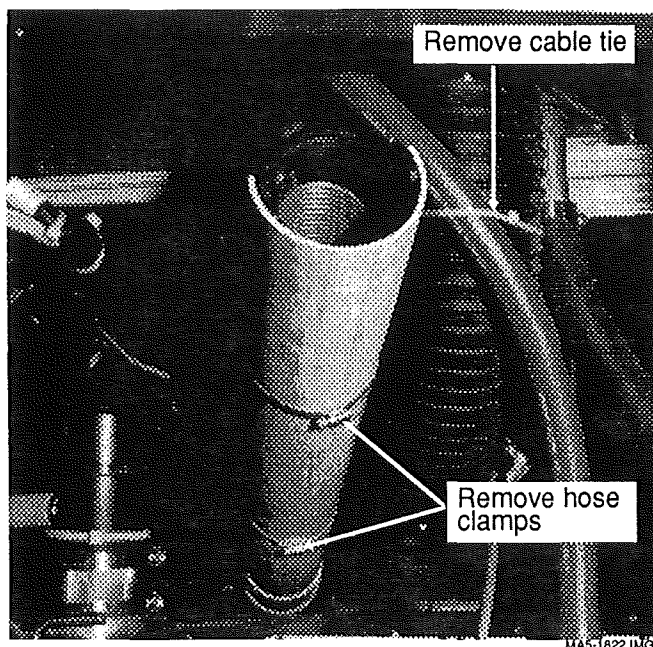

FIG. 22 - Lavatory service compartment
1. Open the lavatory service compartment door, then remove the flexible drain hose container by unscrewing the two (2) hose clamps. This step is necessary to have access to the ventilator fan and motor assembly. Refer to figure 22 for details.